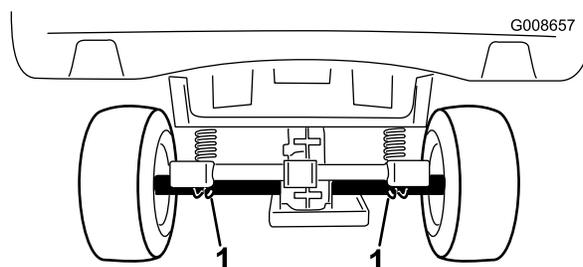

Figure 25
- The lifting point at the rear of the machine is under the axle tubes (Figure 25).